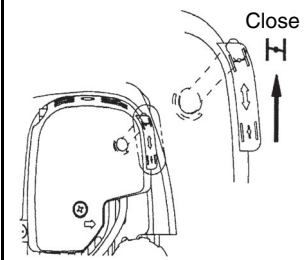
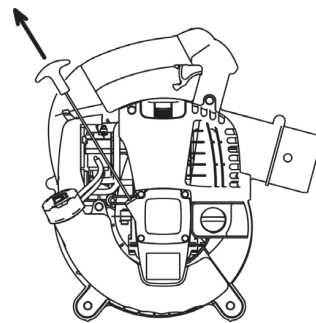

Figure 3
Figure 4
- **Refill:** After inspection if the oil is below the lower limit add oil through the same opening that the oil cap was removed. See Figure 4 on how to orient the engine to refill the oil.
(2) You may need to refill oil approximately every 10 hours of use (every 10 refuellings).
(3) If the oil changes in color or mixes with dirt, replace the oil. (For the interval and method of replacement, refer to P. 15)
- (4) Lift the choke lever to the closed position (Figure 3).
- (5) Hold the main handle with left hand to prevent the engine from moving.
- (6) Pull out slowly the starter handle till a certain resistance is felt. Return the starter handle backward once from this position, then pull it out with force (Figure 4).